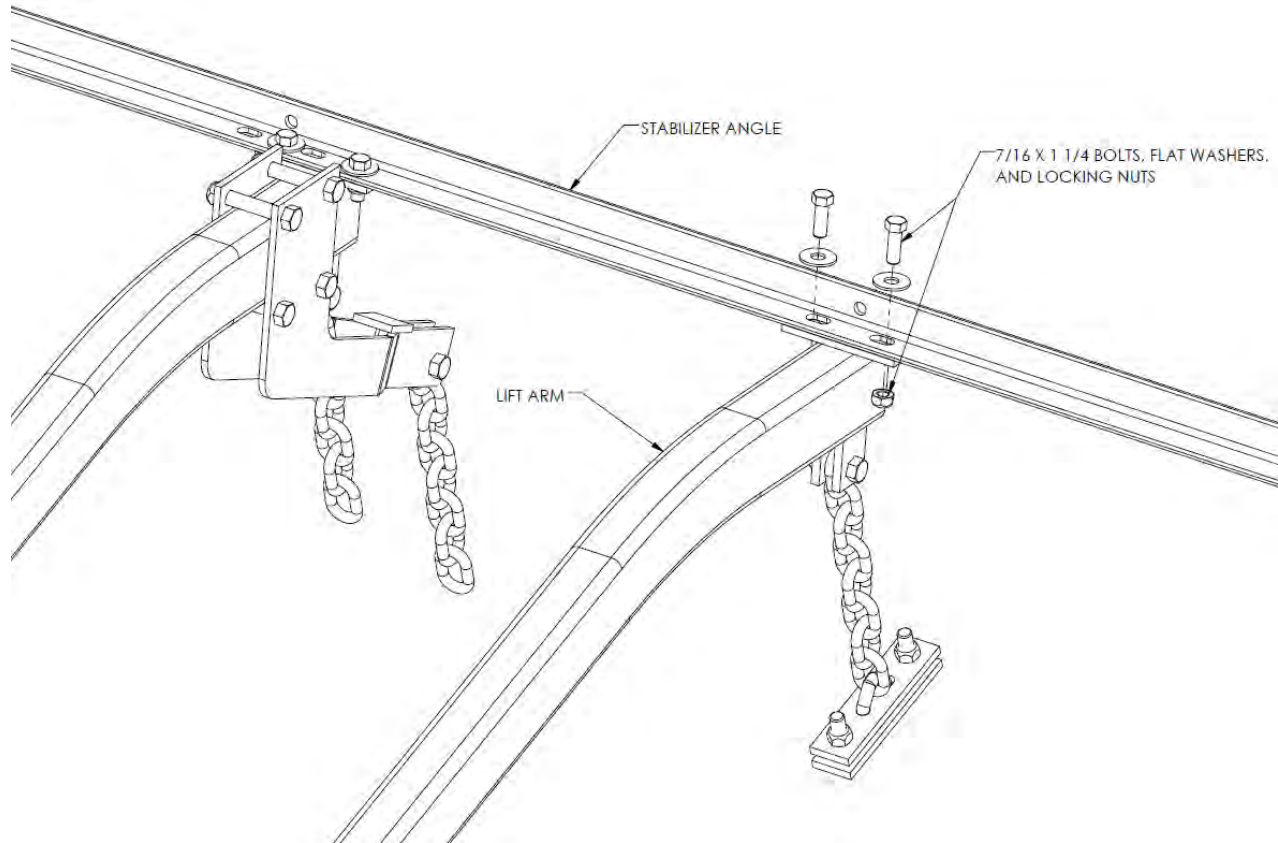

Figure 18
3. Bolt the lift chains to the bottom of the rear lift tabs of the front harrow sections. Refer to Figure 18. Use 1/2" x 1 1/2" bolts, flat washers, and locking hex nuts.